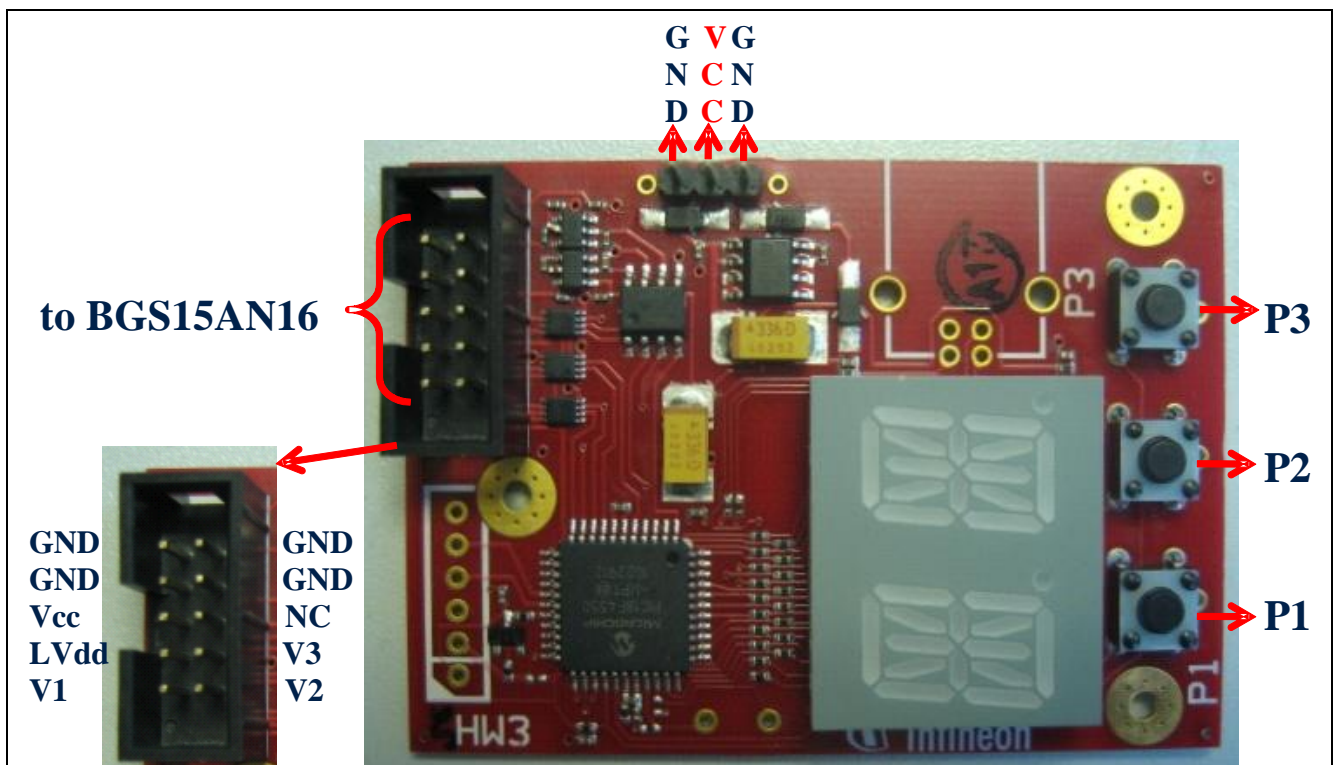

Figure 17 Switch Controller Unit Board
This section helps as a short user guide for the controller unit shown in Figure 17. The controller unit requires a DC supply of 5.5V with a current capability of 50mA.
3. **Step3:** Connect the control unit to the switch with an appropriate cable according to the connector pin out shown in Figure 17.